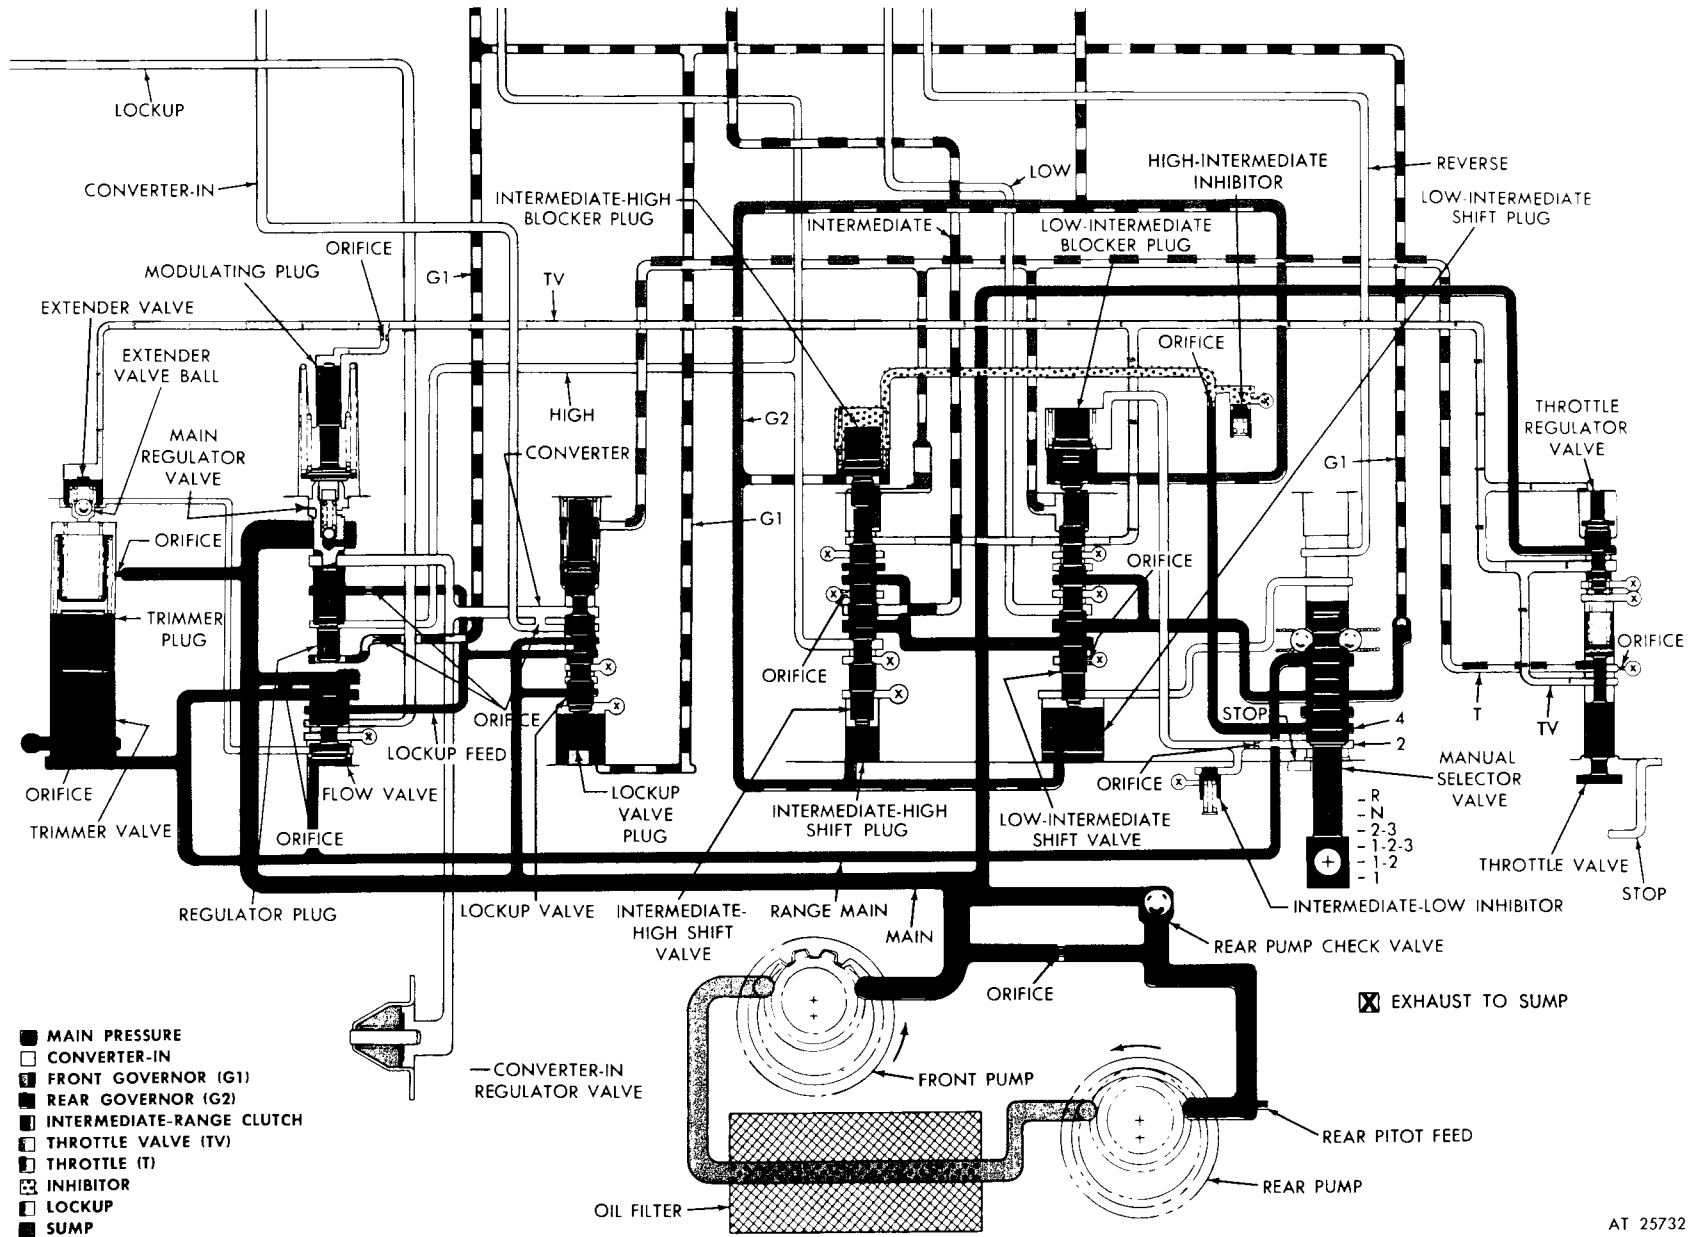

Figure 2-5. Hydraulic system, intermediate-range operation—schematic view.
*a. Main Pressure Circuit* (red—fig. 2-5).
(1) The main pressure circuit in intermediate range functions as described in paragraph 2-15a for low-range operation except for the differences outlined in (a) through (e) below.
(2) The results of the differences in the main pressure circuit are explained in the various circuit explanations which follow.
*b. Converter-In Circuit* (yellow—fig. 2-5). The converter-in circuit functions as described in paragraph 2-15b.
*c. Front Governor (G1) Circuit* (blue, black—fig. 2-5). The front governor (G1) circuit functions as described in paragraph 2-15c
*d. Rear Governor (G2) Circuit* (green, black—fig. 2-5). The rear governor (G2) circuit functions as described in paragraph 2-15d except that increased G2 pressure, in the absence of intermediate-low inhibitor pressure, has forced the low-intermediate shift plug, shift valve, and blocker plug upward. This allows main pressure to be directed to the intermediate-high shift valve bore.
*e. Intermediate-Range Clutch Circuit* (red, yellow—fig. 2-5). At the intermediate-high shift valve, main pressure is connected to the intermediate-range clutch pressure line. This applies the clutch.
*j. Throttle Valve (TV) Circuit* (blue, yellow—fig. 2-5). The throttle valve (TV) circuit functions as describe in paragraph 2-15f.
*g. Throttle (T) Circuit* (green, yellow — fig. 2-5). The throttle (T) circuit functions as described in paragraph 2-15g.
*h. Inhibitor Pressure Circuit* (dotted red—fig. 2-5). In intermediate range (selector at 1-2 position), only the high-intermediate downshift inhibitor circuit is charged. It functions as described in paragraph 2-15 h.
*i. Lockup Clutch Circuit* (blue, white—fig. 2-5).
(1) The flow valve controls the lockup clutch circuit when a shift from one range to another occurs automatically or is made manually. In figure 2-5, the change can be considered as a manual change from selector position 1 to selector position 1-2, or it can be considered as an automatic upshift from 1 to 2 within selector position 1-2.
(2) The downward movement of the flow valve (a (1) (c) and (d) above) releases the lockup clutch temporarily and triggers the action of the trimmer valve. The flow valve moves downward when the shift has just occurred. It will stay downward until the oncoming clutch (intermediate range) is partially pressurized.
(3) When the flow valve is downward, lockup pressure is released. This is only temporary until the oncoming range clutch is filled and main pressure above and below the flow valve equalizes.
(4) Main pressure below the trimmer valve quickly lifts the trimmer valve until oil escapes through the exhaust port at the left. This reduces main pressure flowing to the clutch being applied. With negligible pressure above the trimmer plug, main pressure flowing through the orifice in the bottom of the trimmer valve forces the trimmer plug upward, away from the trimmer valve. The speed of its movement upward is influenced by throttle valve (TV) pressure being faster at closed throttle (para. 2-15 f(4)). The speed of its movement likewise influences clutch apply pressure initially. The higher TV pressure is, the higher initial clutch pressure is.
(5) The trimmer valve remains open (oil exhausting at left side) until the trimmer plug reaches the top of its stroke. When the trimmer plug stops, oil continues to flow upward through the orifice in the bottom of the trimmer valve. When pressure above and below the trimmer valve is equalized, spring pressure pushes the trimmer valve downward. This closes the exhaust port. Main pressure increases significantly below the flow valve to return the flow valve to its upward position and lockup pressure is restored. Main pressure is restored, at the same time, to the area above the extender valve ball.
(6) When the extender valve ball is seated, further flow of oil from the upper area of the trimmer valve bore is prevented. Then, oil entering the bore (from main), through an orifice, forces the